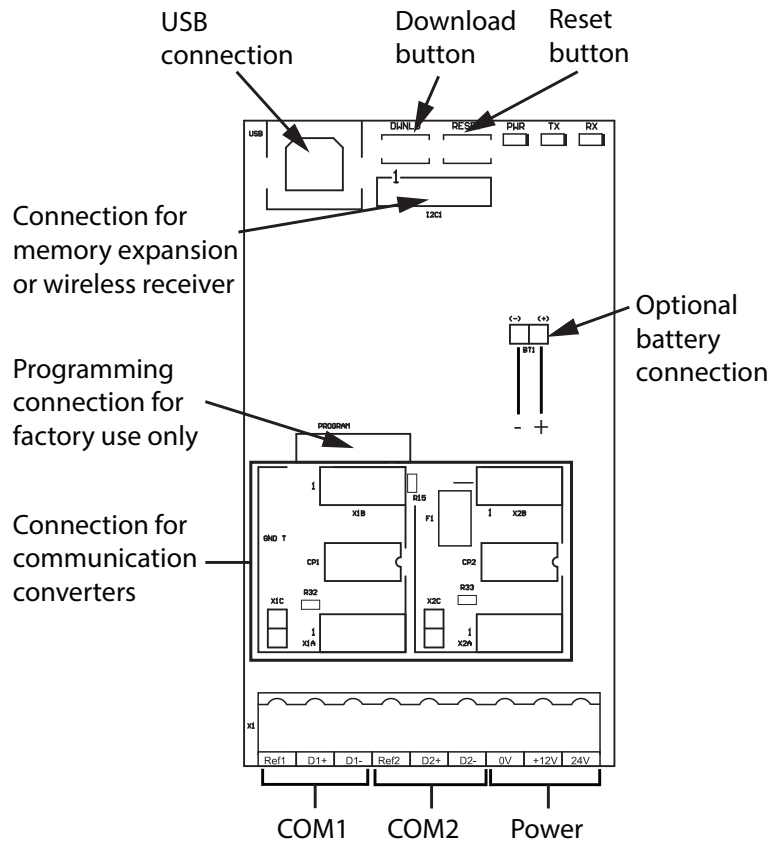

Figure 4 Board connections
Connect the memory expansion cards to the I2C connector shown in Figure 4.
The OpenBAS-HV-NXCORE has connections for an optional battery, shown in Figure 4. Since the OpenBAS-HV-NXCORE is normally configured as a slave, it receives the time from the master, so it does not require a battery. Connect a battery if the controller is configured as a master or is used as a standalone controller. The Mircom part number for the battery is BT-025.
6. Connect the new battery to the connection shown in Figure 4. The battery wire can be connected only one way.
The full speed USB 2.0 connection is shown in Figure 4. Connect a computer to this port in order to configure the controller.
Figure 4 on page 11 shows the location of the terminals. The terminals are depluggable for ease of wiring.